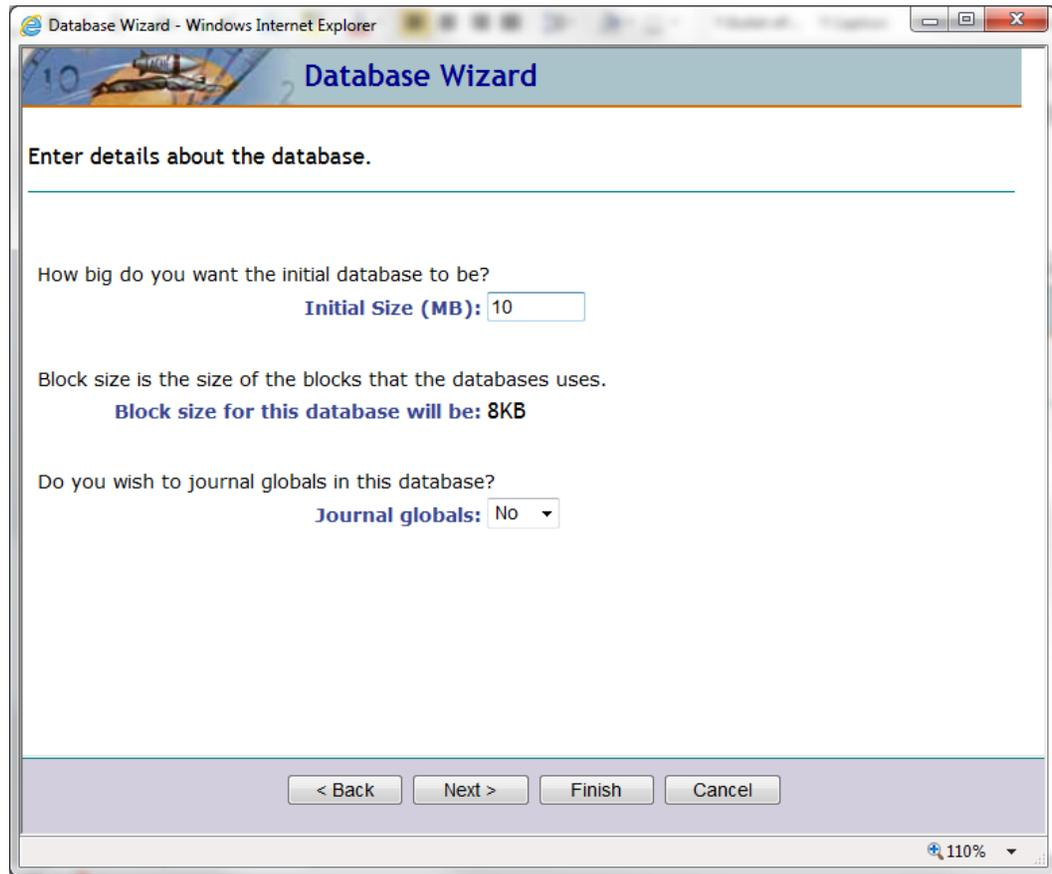

Figure 4-17: **Database Wizard** dialog
10. Click **Next**. The **Enter details about the database** window displays as shown in Figure 4-17: